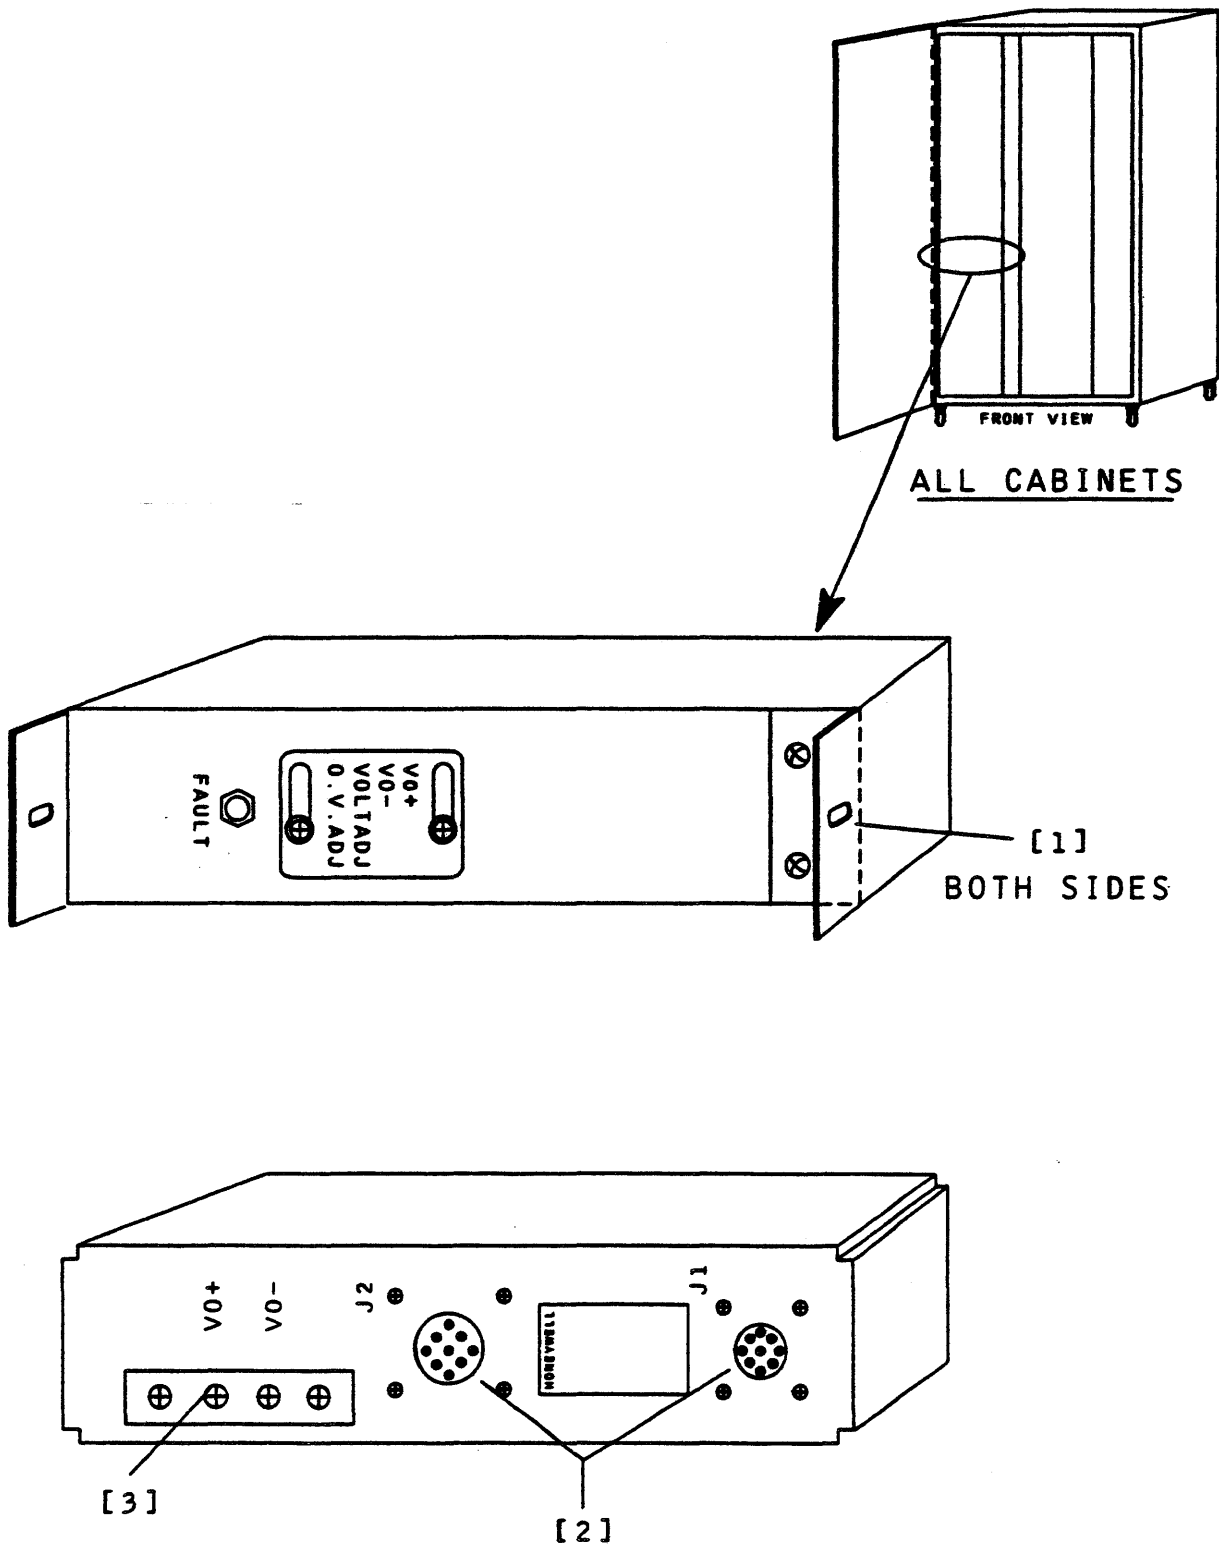

FIGURE 2.7-1. VOLTAGE REGULATOR 100W REMOVAL/INSTALLATION
6. Using cross-tip screwdriver, remove regulator's front retaining hardware (Figure 2.7-1, [1]).
7. Disconnect connector plugs P1 and P2 from rear of regulator (Figure 2.7-1, [2]).
8. Using cross-tip screwdriver, remove V0+ and V0- electrical lead securing hardware at rear of regulator (Figure 2.7-1, [3]).